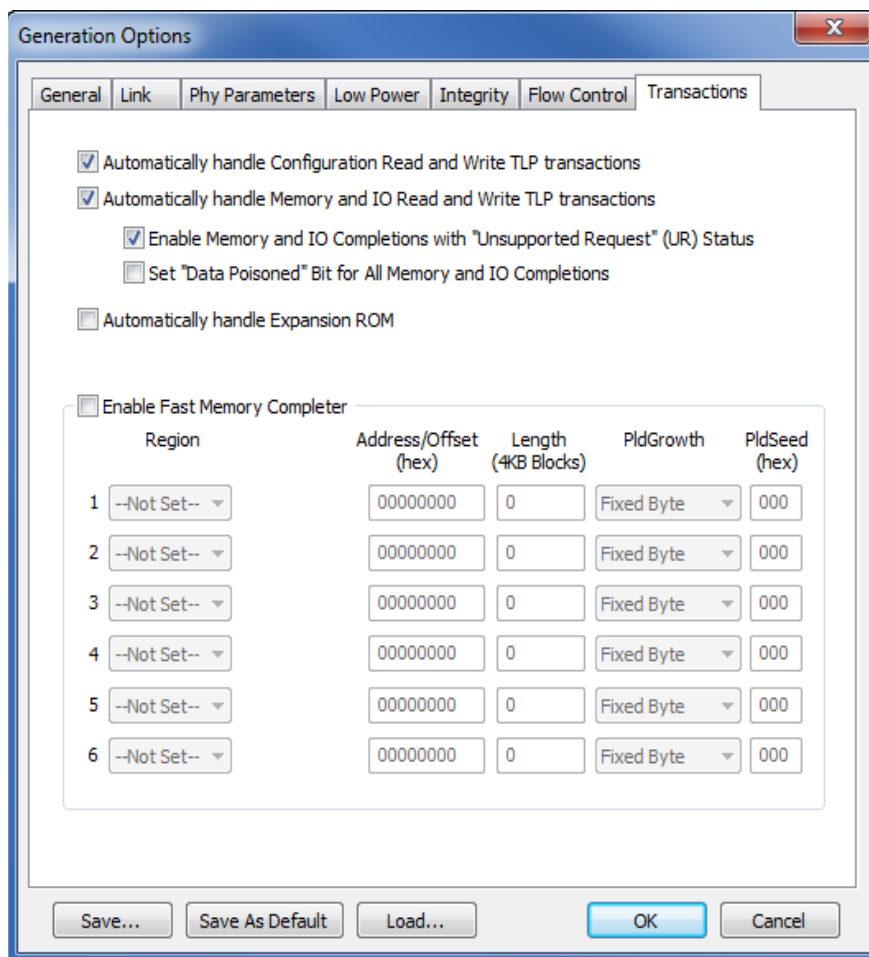

Figure 7.2: Generation Options - Transactions Tab.
3. Select the Transactions tab and select the options shown in Figure 7.2 on page 94. Click OK.